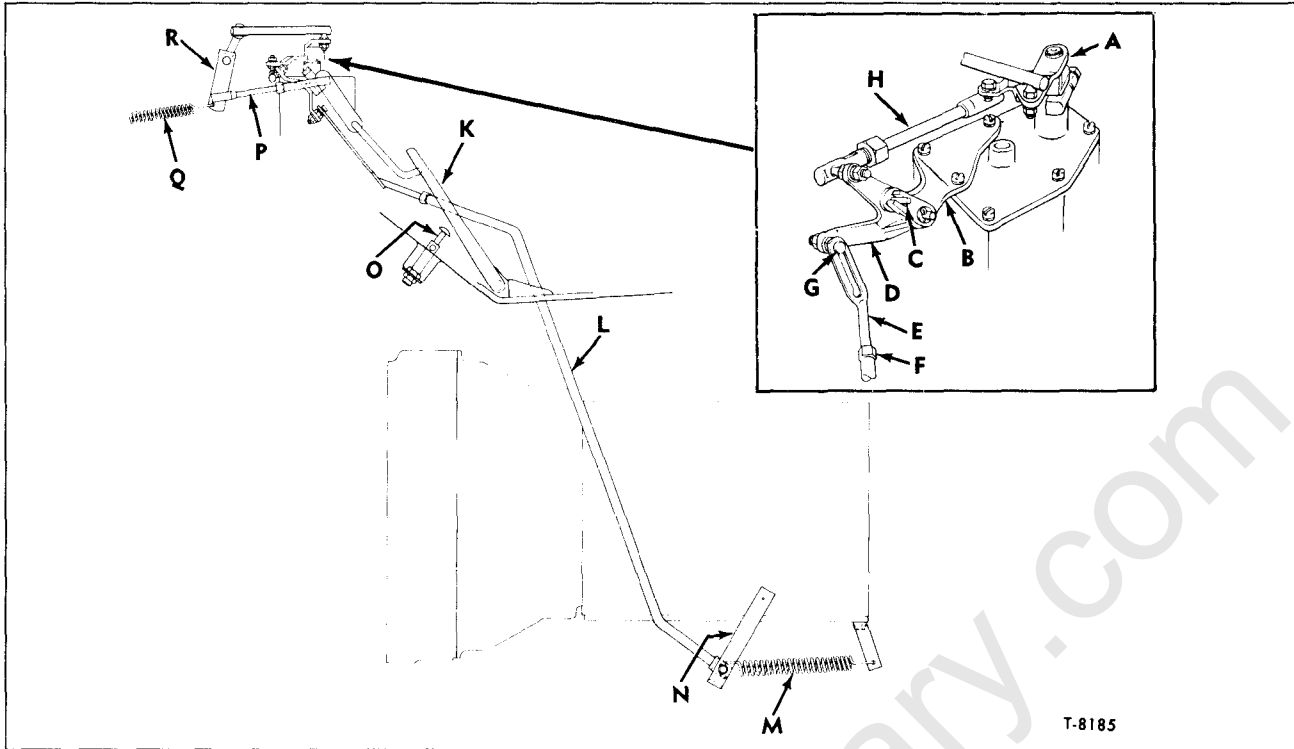
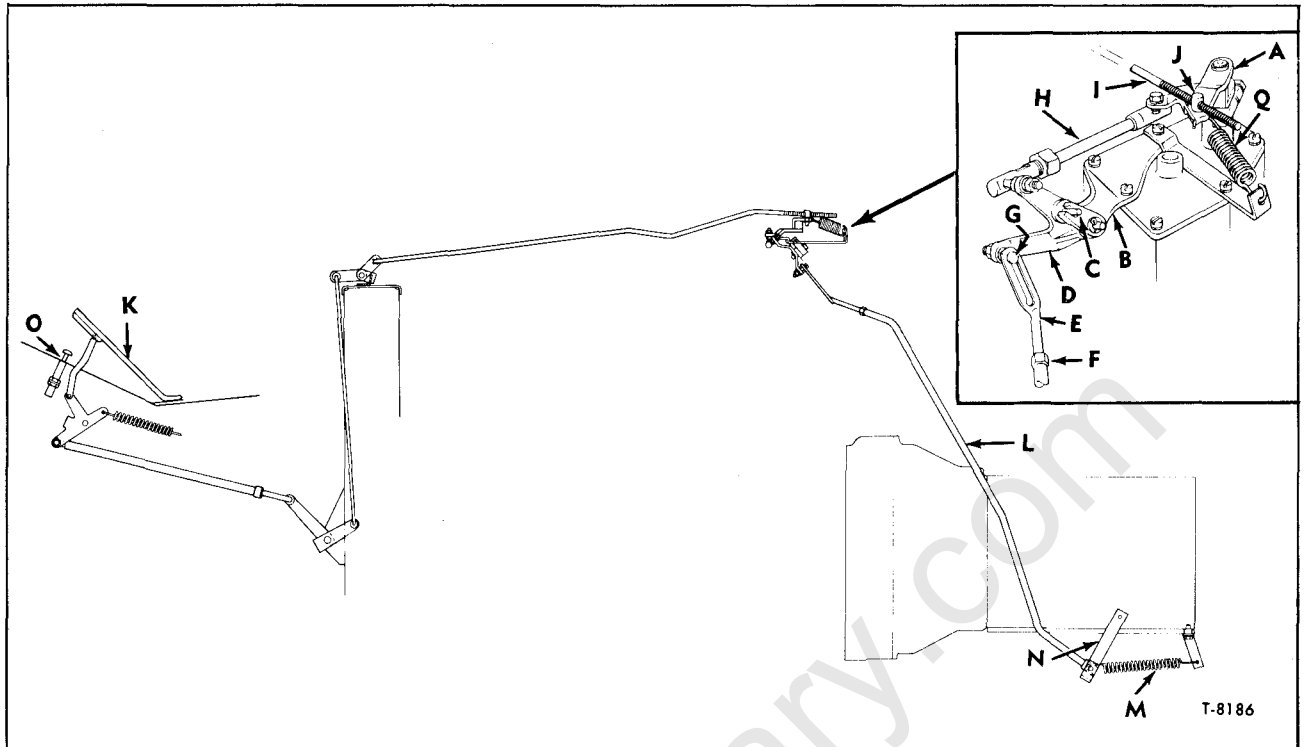

Figure 1—TV Linkage (HV, JV70)
Figure 2—TV Linkage (TV, WV70)
**NOTE:** Key letters in the following text refer to figures 1 and 2.
3. Disconnect TV rod (L) from TV lever (N). Also disconnect TV lever return spring (M) from TV lever.
4. Perform the following on models HV, JV-70 (see fig. 1):
- a. Disconnect throttle return spring (Q).
- b. Disconnect accelerator rod assembly (P) from cross shaft lever (R).
- c. Depress accelerator pedal (K) to THRU-DETENT (detent button (O) - compressed). Ample clearance must exist between the pedal and cab floor, to assure complete movement of TV linkage to the THRU-DETENT position. If necessary, adjustment of the detent button (O) is accomplished by relocating the two jam nuts located on the detent button assembly.
- d. With accelerator pedal just touching detent button (O) hold the governor throttle lever (A) in full throttle position and adjust length of accelerator rod assembly (P) for free-entry into cross shaft lever (R). Connect the rod assembly and release accelerator pedal.
5. Perform the following on models TV, WV-70 (see fig. 2):
- b. Disconnect and remove swivel (J) from governor throttle lever (A).
- c. Depress accelerator pedal (K) to THRU-DETENT (detent button (O) - compressed). Ample clearance must exist between the pedal and cab floor to assure complete movement of TV linkage to the THRU-DETENT position. If necessary, adjustment of the detent button (O) is accomplished by relocating the two jam nuts located on the detent button assembly.